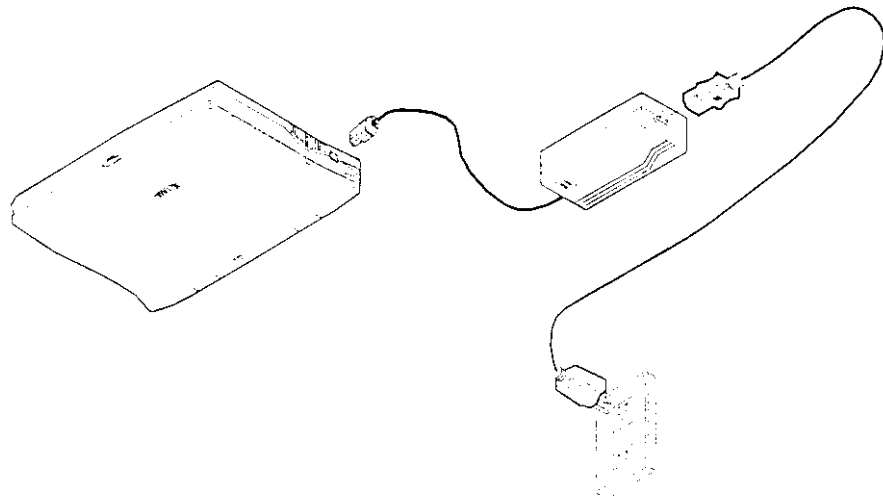

Figure 1-3
3. Plug the AC power cord into a properly grounded outlet (Figure 1-3).